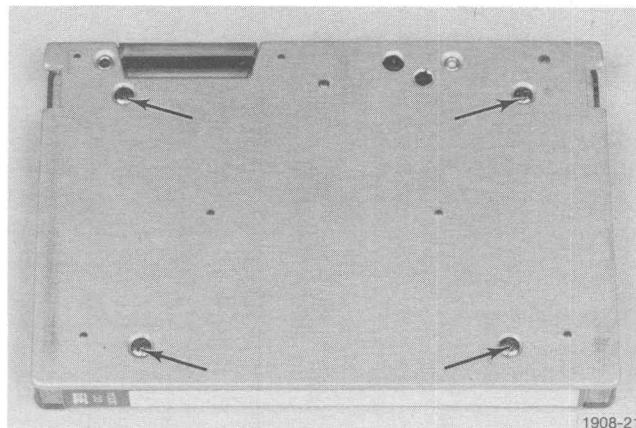

Fig. 3-10. Cartridge attaching screws.
1. Turn the cartridge over (metal side up) and remove the four screws that attach the metal base to the plastic cover (Fig. 3-10). Do not use a magnetic screwdriver when working on or around the cartridge.